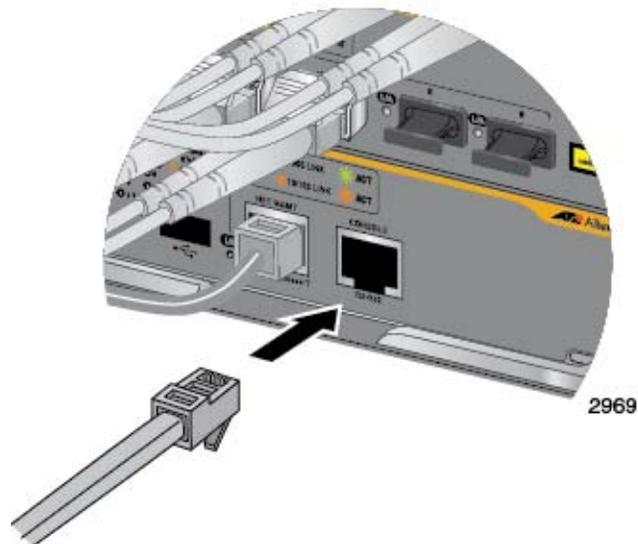

Figure 134. Connecting the Management Cable to the Console RS-232 Port
1. Connect the RJ-45 end of the management card included with the AT-SBx81CFC400 Controller Fabric Card to the Console RS-232 port on the front panel of the AT-SBx81CFC400 Controller Card, as shown in Figure 134. If the chassis has two controller cards, you must connect the cable to the Console RS-232 port on the active master card. To determine which card is the active master controller card, examine the CFC LEDs. The LEDs are green on the active master controller card and amber on the standby master controller card.